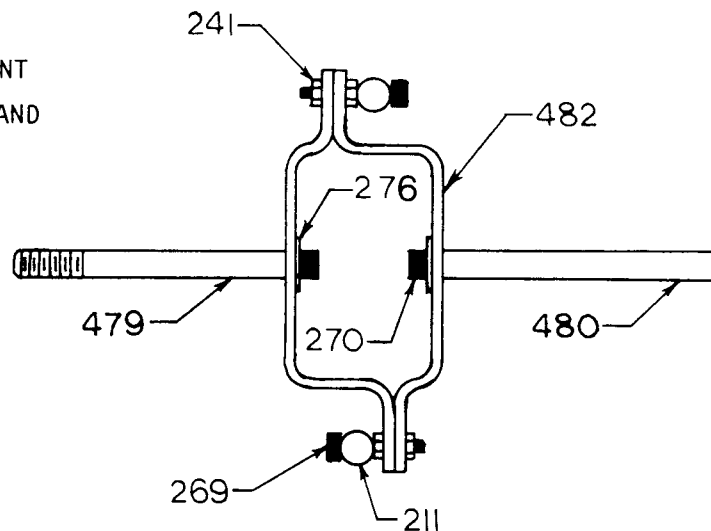

Figure 1
STEP 1 Transverse Lever Assembly - see Figure 1